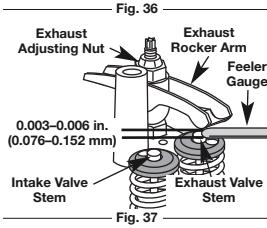

Fig. 37
- Slide the feeler gauge between the rocker arm and the valve return spring. Measure the clearance between the valve stem and rocker arm (Fig. 37). Measure both the intake and exhaust valves.
- Turn the adjusting nut using a 5/16 inch (8 mm) wrench or nut driver (Fig. 37).